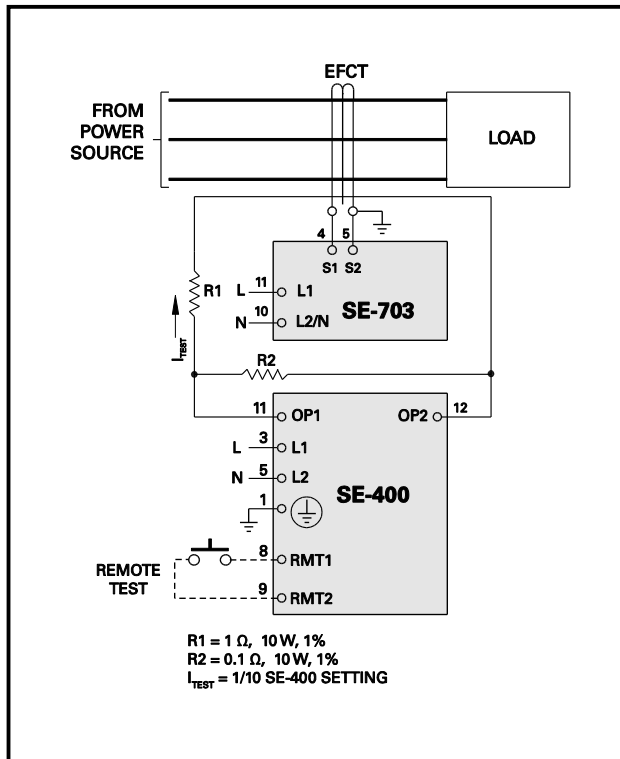

FIGURE 11. Earth-Fault-Test Circuit.
- Verify proper reaction of the circuit-interrupting device in response to a simulated or controlled earth-fault current. To simulate earth-fault current, use CT-primary current injection. Fig. 11 shows a test circuit using an SE-400 Ground-Fault-Relay Test Unit. The SE-400 has a programmable output of 0.5 to 9.9 A for a duration of 0.1 to 9.9 seconds.
Fig. 11 shows the use of resistors that reduce the injected current to 10% of the SE-400 setting. Set the test current to 120% of the SE-703 setting. Inject the test current through the current-sensor window for at least 2.5 seconds. Verify that the circuit under test has reacted properly. Correct any problems and re-test until the proper reaction is verified.
Added Fig. 11.